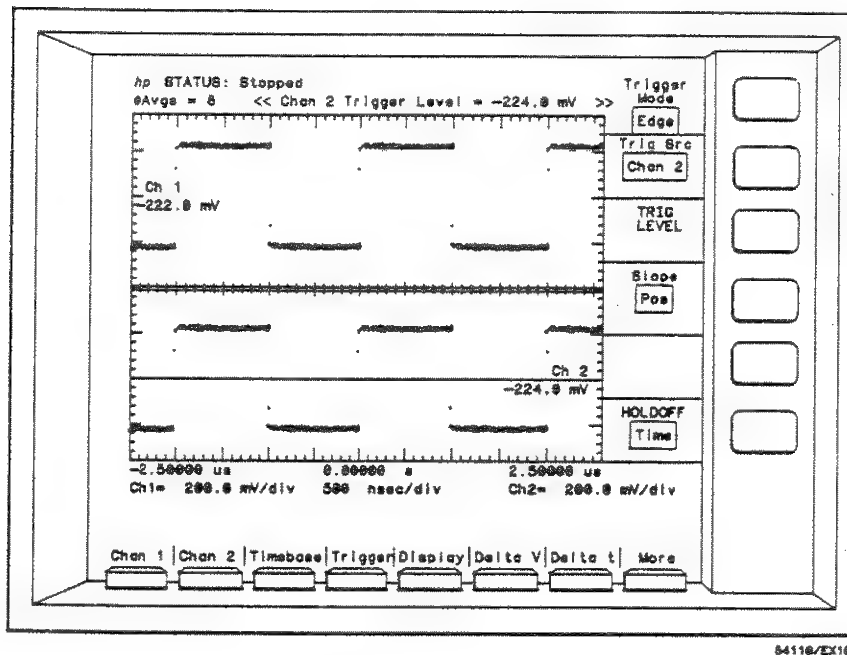

Figure 7-14. Split Screen with Trigger on Chan 1
4. Select TRIG LEVEL. The trigger level will be indicated by a horizontal line through the chan 1 signal (see figure 7-14).